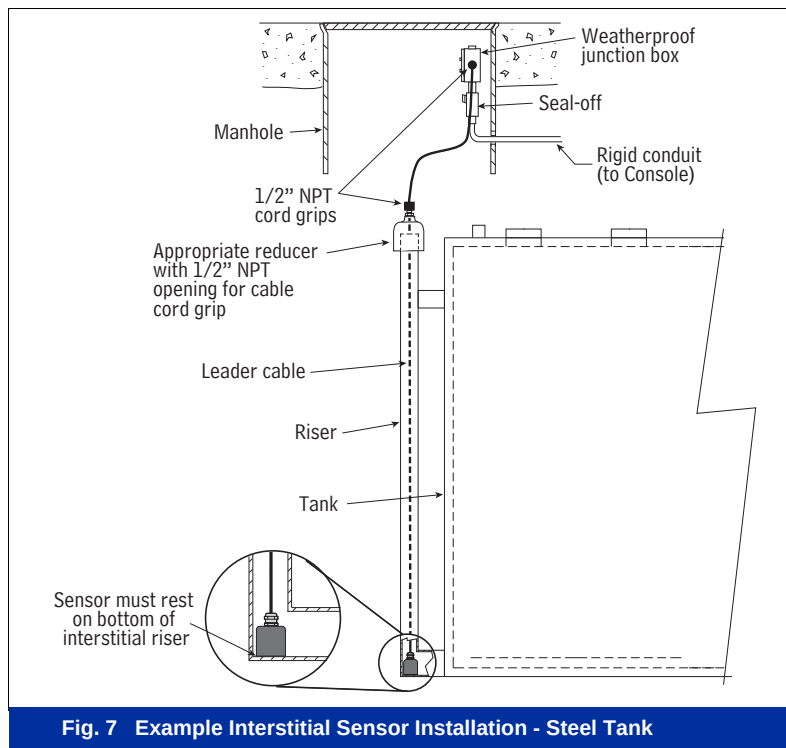

Fig. 7 Example Interstitial Sensor Installation - Steel Tank
- Installation example (see Fig. 7)